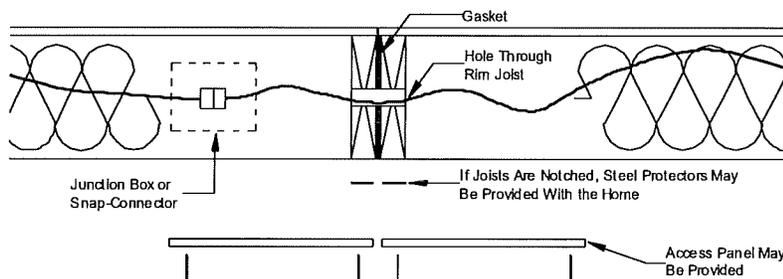

Figure 50. Electrical crossover floor wires with flush access panels
1. **Access wires.** Find the crossover location(s) and remove the access panel(s) if attached. If access panel openings are not provided, cut through bottom board to expose the wiring (Figure 50).